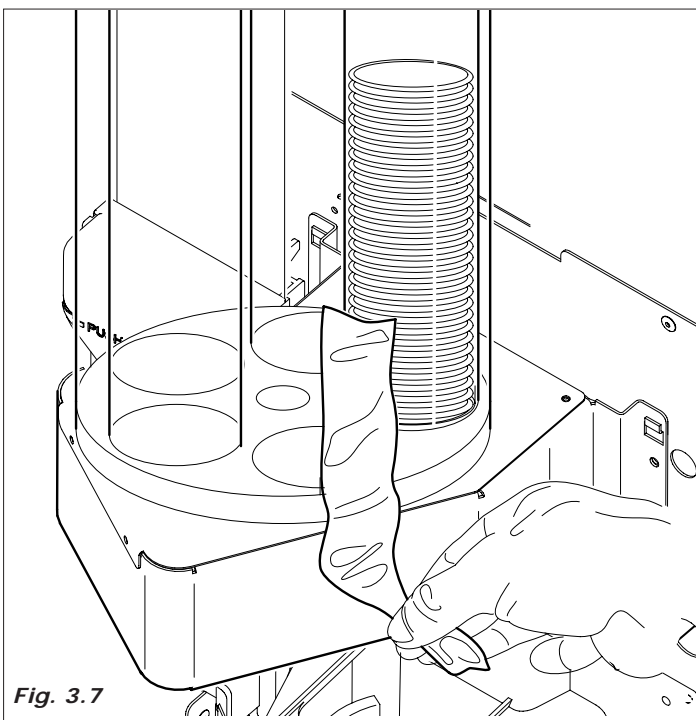

Fig. 3.7
- cup turret (example in Fig.3.7)